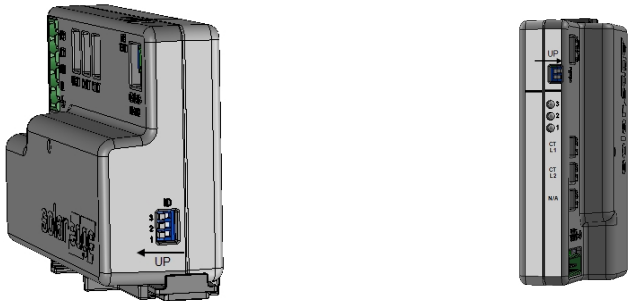

Figure 21: ID and termination DIP switches
7. In the meter, ensure the RS485-1 DIP switch is down. See *Figure 21*.